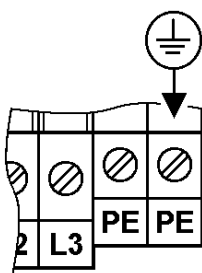

Fig. 21: Additional earthing
- Due to the increased leakage current, an additional, reinforced earth line must be connected in accordance with EN 50 178 (Fig. 21).